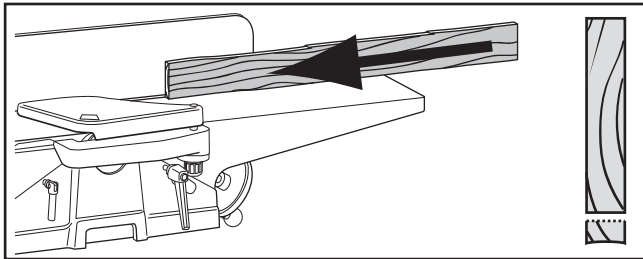

Figure 43. Edge jointing on jointer.
1. Edge joint concave edge of 2x4 flat on jointer, as shown in **Figure 43**.